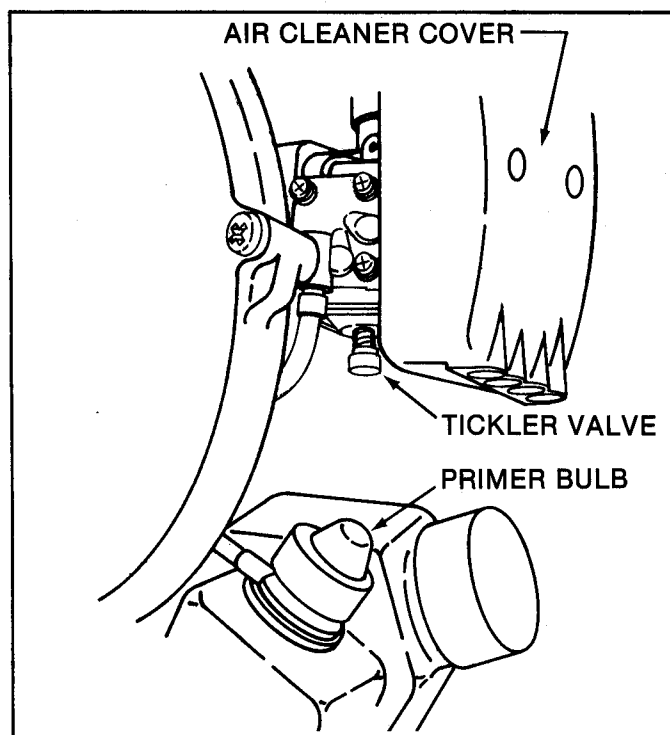

FIG. 3 - TICKLER/PRIMER BULB LOCATION
3. While holding tickler valve up (see figure 3) pump the primer bulb on fuel tank until fuel starts flowing out of the overflow tube. Continue pumping until no air bubbles are evident in the tube. NOTE: Make sure the tickler valve is held up while priming. If primed while in down position, carburetor flooding and hard starting will occur. No priming will be needed with warm engine.